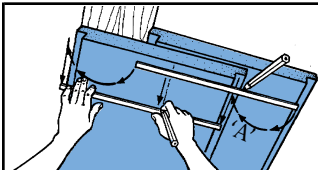

Figure 3
- STYROFOAM WALLMATE XPS insulation can be installed in tight spaces, even if the wall is uneven. Position insulation board squarely against corner, overlapping inside edge of last board installed (Figure 3).